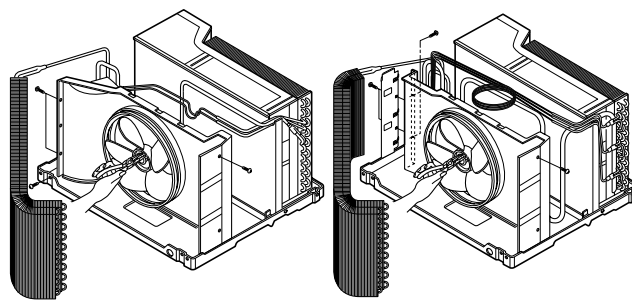

Figure 23
6. Remove the fan. (See Figure 23)